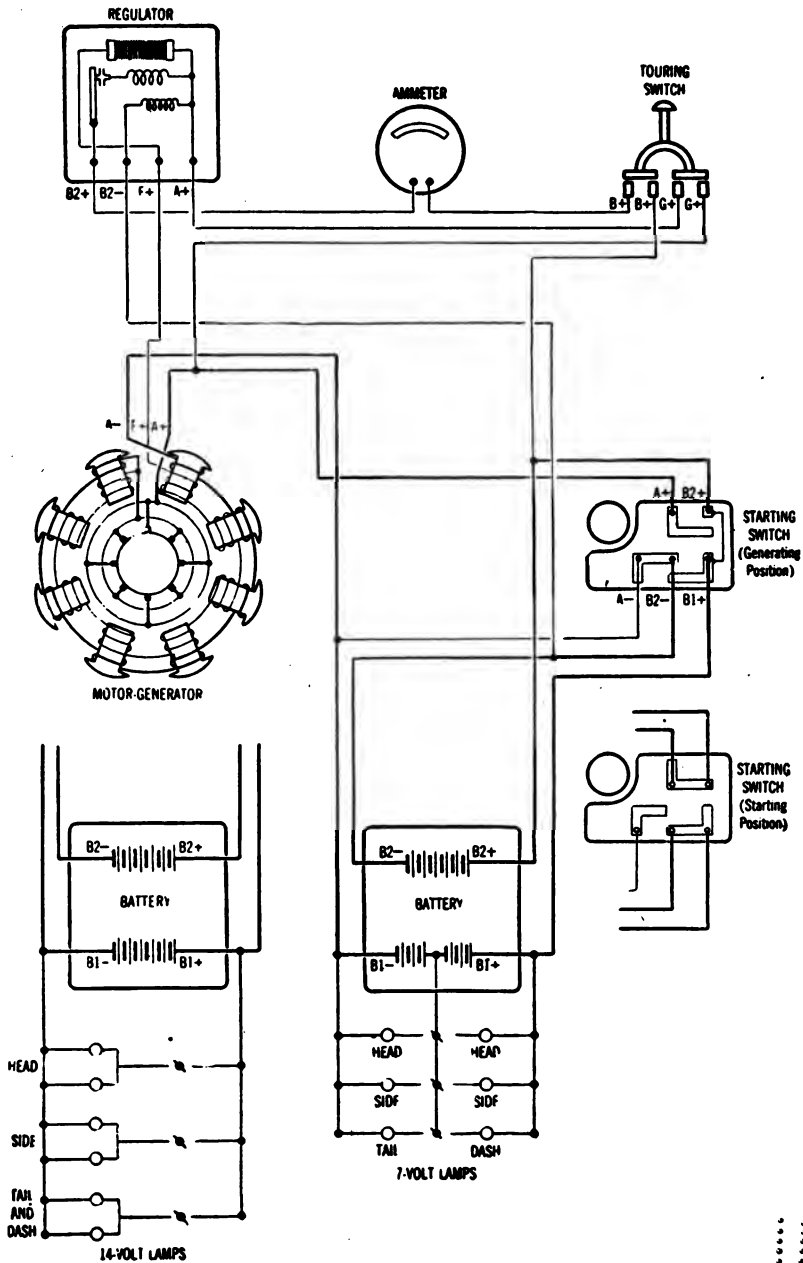

Fig. 333. Wiring Diagram for 24—12-Volt External Regulator Type, U.S.L. System
**Wiring Diagrams.** Figs. 333, 334, and 335 show the standard wiring diagrams of the three types mentioned, being, respectively, the 24—12-volt externally regulated type, the 12—6-volt external regulator and internal-armature type, and the 24—12-volt inherently regulated type. In the diagram proper of each of the 24—12-volt types is indicated the layout for using 7-volt lamps, while the extra diagram at the side shows the method of connecting for 14-volt lamps. The “touring switch” shown on the first two diagrams is a hand-operated switch in the charging circuit and is designed to prevent overcharging of the battery when on long day runs. The inherently regulated type requires very little field current, and on most of these the touring switch is of the miniature push-button type, like a lighting switch.